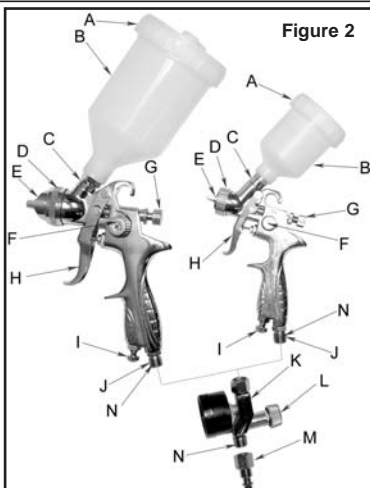

Figure 2
- Install the regulator onto the air inlet port of the tool then install a 1/4" NPT female connector (not included) onto the air inlet of the regulator. (see Figure 2). **Note: Use Teflon® Tape on all threaded connections.**